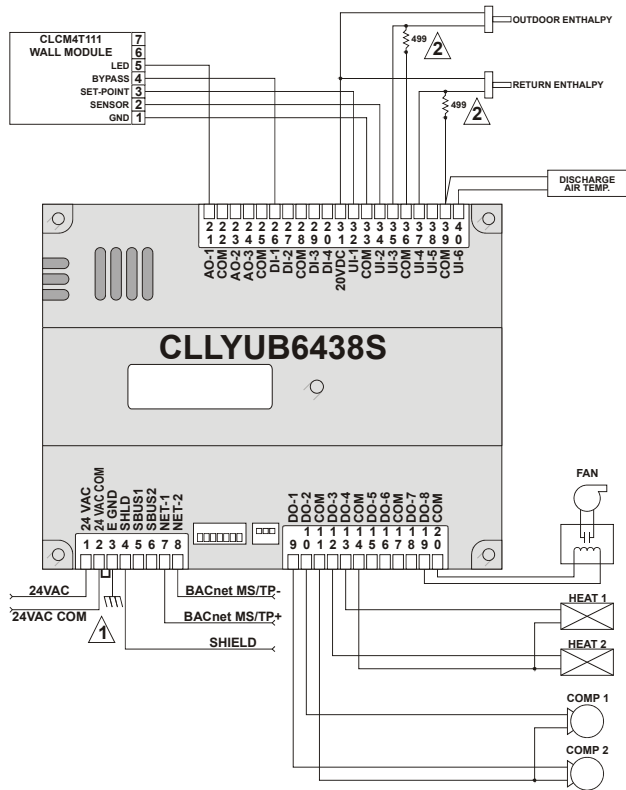

Fig. 16. Controller wiring diagram (CLLYUB6438S shown) for typical AHU application
- Typical controller wiring for AHU application (see Fig. 16).